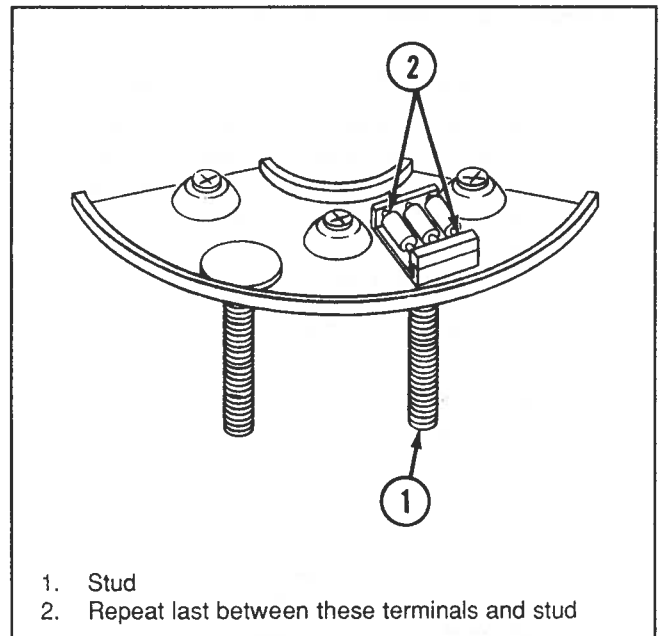

Figure 6-105. Testing Positive Diodes
1. Connect one lead of an ohmmeter set on Rx1 scale to stud on positive (+) rectifier heat sink and the other lead to one of the rectifier-diode terminals (Figure 6-105). Note the meter reading.